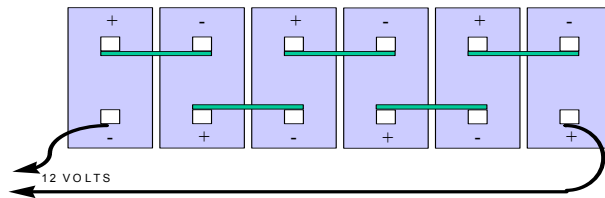

Figure 2-9
- d. All large secondary batteries are wired in series, (+) to (-), to add cell voltages. Six 2 volt cells wired in series will provide a nominal 12 volts, as shown in Figure 2-9